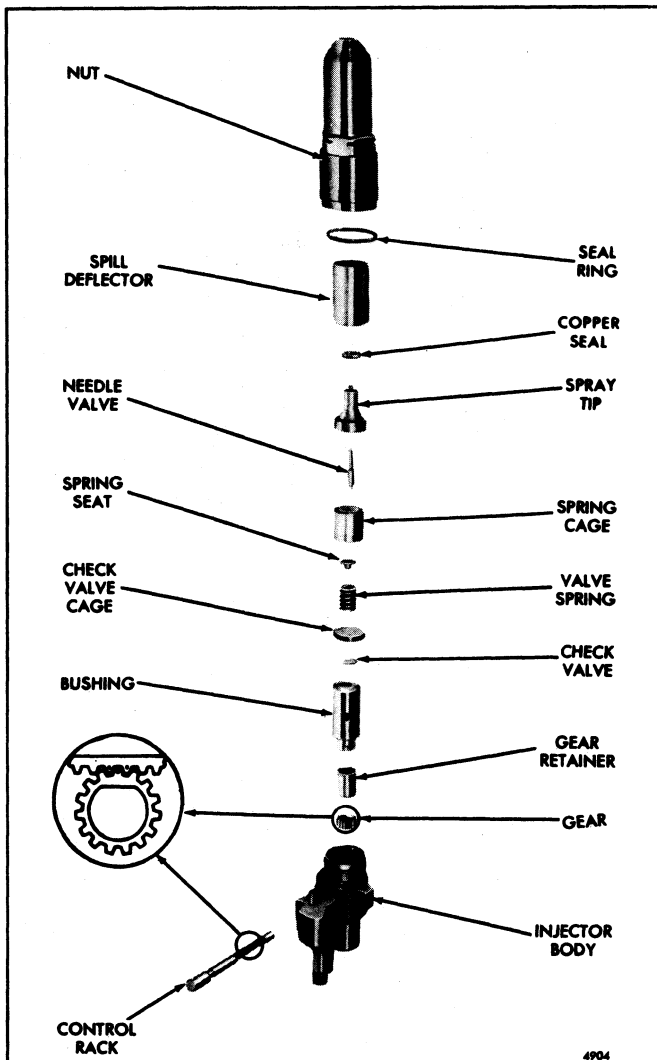

Fig. 25 - Injector Rack, Gear, Spray Tip and Valve Assembly Details and Relative Location of Parts
- 7. Refer to Fig. 25 and note the marked teeth on the control rack and gear. Then, look into the body bore and move the rack until you can see the drill marks. Hold the rack in this position.
- 8. Place the gear in the injector body so that the marked tooth is engaged between the two marked teeth on the rack (Fig. 25)